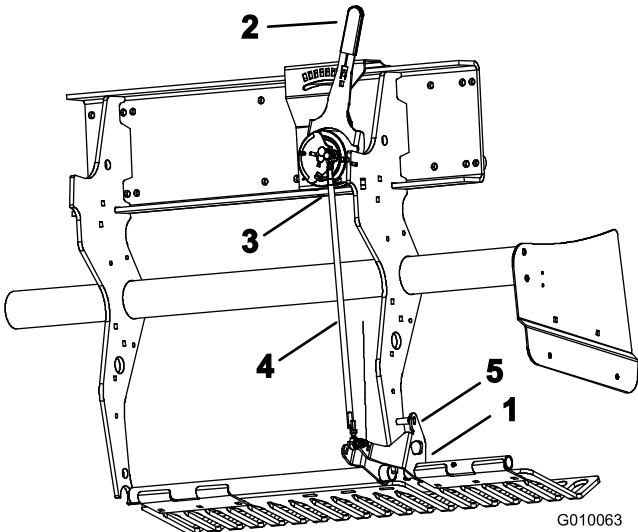

Figure 58
1. Rotate the LH turf guard mounting bracket (Figure 58) up until a locking pin (5/16 drill rod or bolt) can be inserted between the bracket and the depth setting tube welded to the frame.
- 2. Move the tine depth lever (Figure 58) to the H setting (deepest).
- 3. Disconnect the outboard ball switch (Figure 58) from the wire harness (Head-Low switch).
- 4. Loosen the jam nuts (LH and RH) on the depth adjustment tie rod (Figure 58).